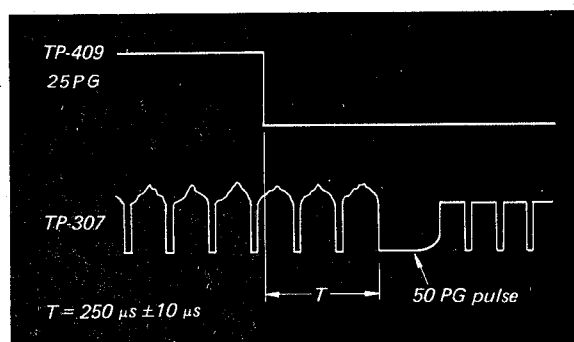

Fig. 7-13. Position of 50 PG pulse
3. Adjust R377 so that the phase between the leading edge of 50 PG and leading edge of the 25 PG pulse is 250 $\mu\text{sec} \pm 10 \mu\text{sec}$. See Fig. 7-13.